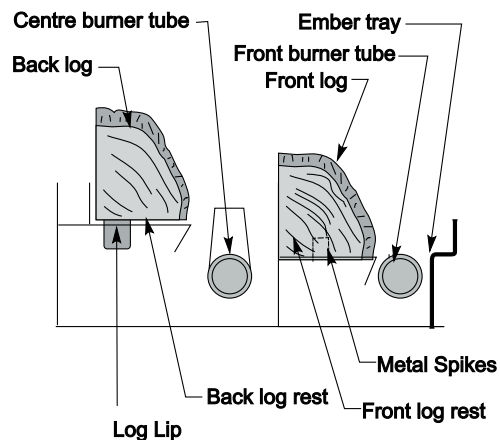

Figure 30. Positioning for the front and back logs.
3. Place the Front log onto the front log rest as shown in **figure 30**. Center the log from side to side, and push it against the back of the log rest. Carefully push the log onto the metal spikes on the log rest.